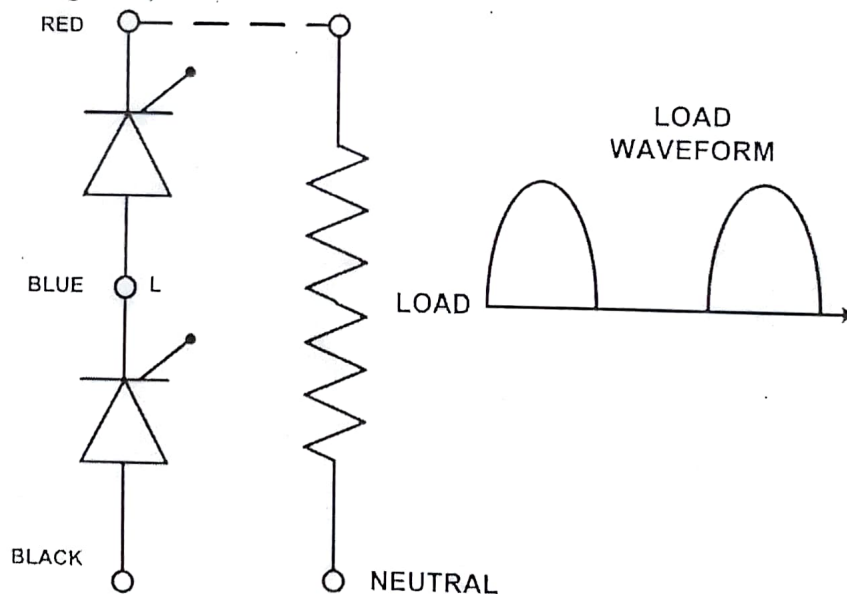

Figure 2
5. Connect another point of load to "RED" terminal for getting the positive half cycle.(Refer figure 2)